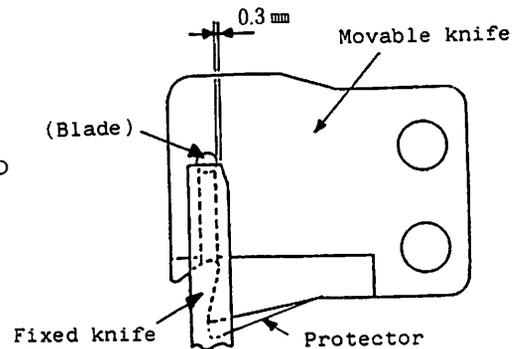

Fig. 11.4
(1) The standard installation of the fixed knife and movable knife is shown in Fig. 11.4.
(2) If dimension of 0.3mm shown in Fig. 11.4 is too large, the needle thread may leave the needle eye after thread trimming.